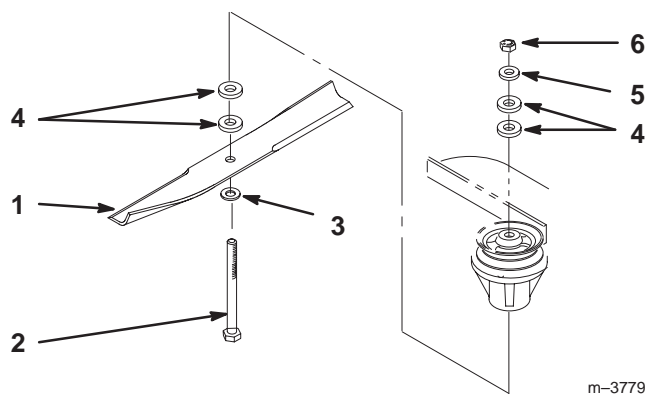

Figure 25
3. Hold the blade bolt and remove the nut. Slide the bolt down through the spindle, and change the spacers as needed (Fig. 25).
4. Insert a bolt, add extra spacers, and secure them with a thin washer and a nut (Fig. 25).